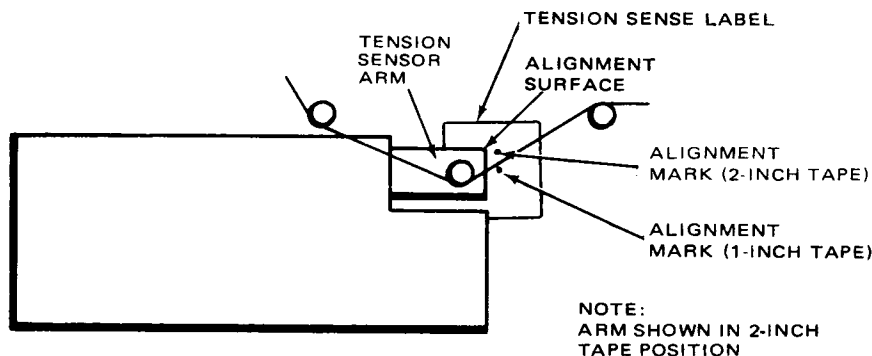

Figure B-3. Positioning Tension Sensor Arm
2. While holding the takeup reel to restrain movement, apply power to the recorder/reproducer and adjust the stop supply tension potentiometer (R3) until the alignment surface of the tension sensor arm (Figure B-3) is aligned with the one-inch or two-inch alignment mark, according to tape width on the tension sense label.
3. Adjust the play supply potentiometer R3 (for two-inch tape) or R10 (for one-inch tape) until the tension sensor arm aligns with the alignment mark for the appropriate tape size on the tension sense label under the tension sensor arm (Figure B-3).
6. Rethread the tape normally and depress the PLAY pushbutton. The alignment surface of the tension sensor arm (Figure B-3) must be aligned with the center of the appropriate alignment mark on the tension sense label. Readjust potentiometer R2 (two-inch tape) or R10 (one-inch tape) as necessary to obtain correct alignment.
2. Depress the REWIND pushbutton. After the tape has accelerated to maximum speed, adjust rewind takeup potentiometer R4 such that the tension sensor arm (Figure B-3) aligns with the alignment mark on the tension sense label for the appropriate tape size.